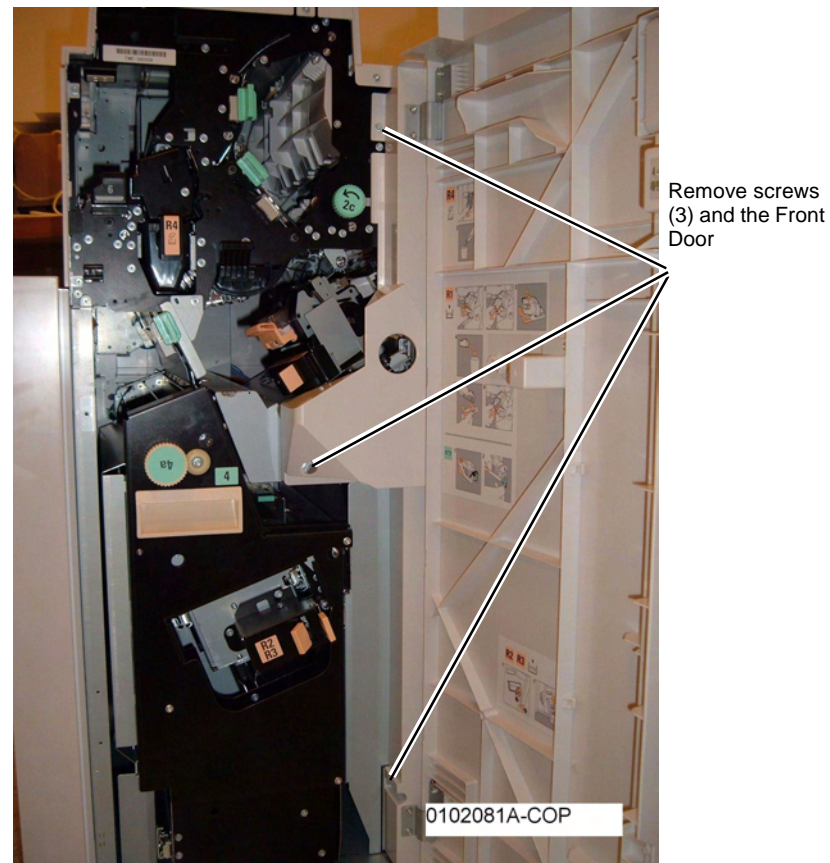

Figure 1 Removing the Front Door
2. Remove the Front Door (Figure 1).